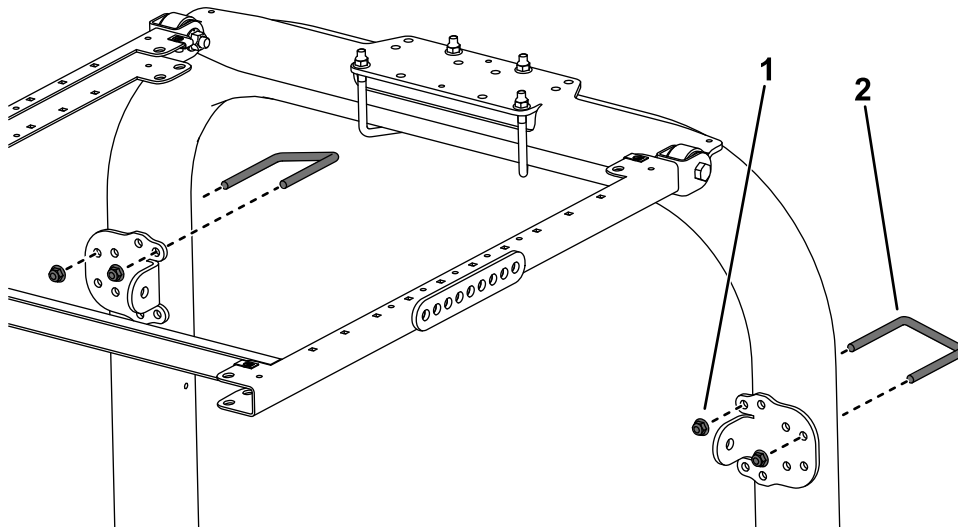

Figure 4
4. Using the mounting holes shown in Figure 4, loosely secure each of the brace brackets to the roll bar posts with a U-bolt (3-1/8 x 4 inches) and 2 flange nuts.